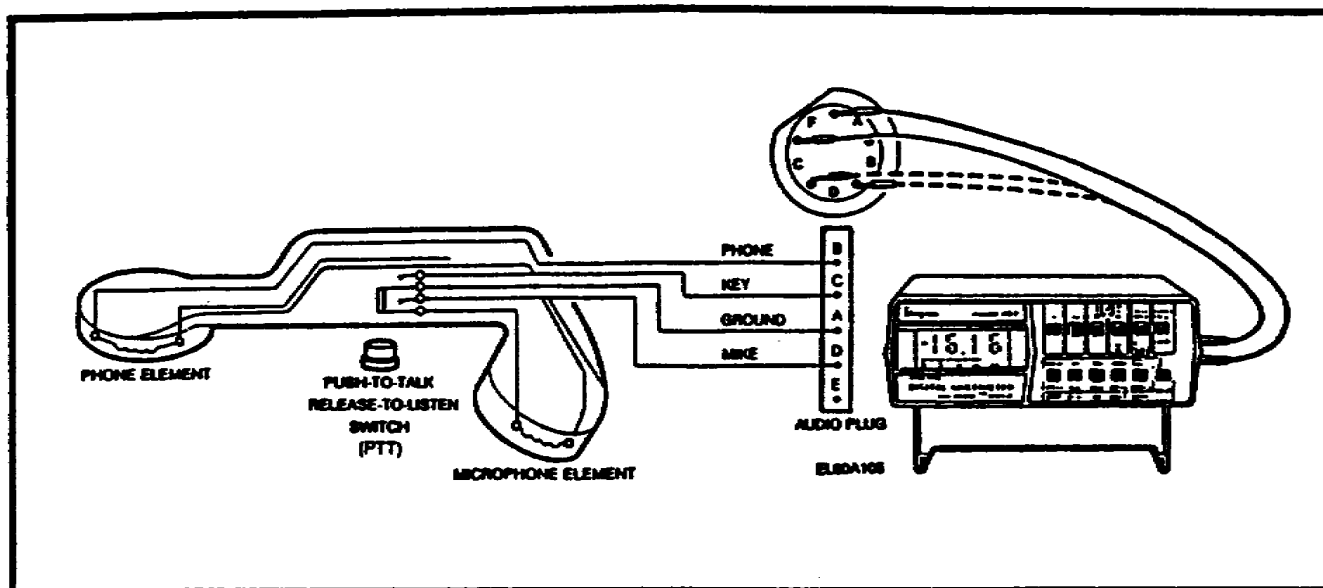

Figure 20. H-189/U(H-250/U) handset checks.
d. Verify operation of handset H-189/U (H-250U). See Figure 20. To verify that the handset H-189/U (H-250/U) is good, make the following checks using test set AN/PSM-45:
(1) Phone element check. Set up test set for ohms checks and circuit disturb between pins A and B by placing one test meter lead on pin A and tapping pin B with the other test lead. A clicking sound should be heard from the phone element if it is good.
(2) Keying circuit check. Connect one meter test lead to pin A, and place the other meter test lead on pin C of the handset audio plug. With the handset PUSH-TO-TALK (PTT) switch held in, the meter display should show 0